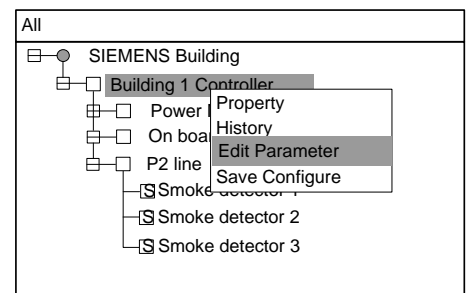
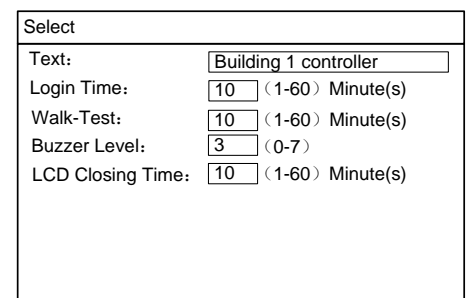

Fig.23-4
Fig.23-5
3. Press "→" to pop out a shortcut menu (Fig.23-4). Use "↓" to select "Edit Parameters" and press "OK" to enter the parameter modify interface (Fig.23-5).